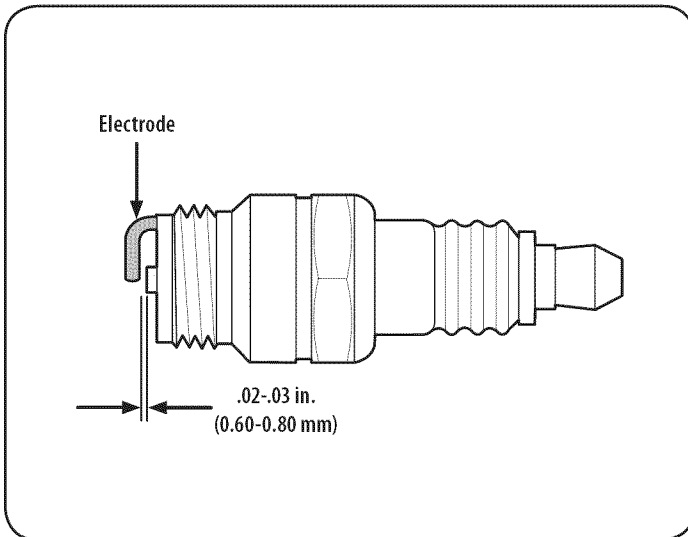

Figure 16
5. Measure the plug gap with a feeler gauge. Correct as necessary by bending the side electrode, see Figure 16. The gap should be set to .02-.03 inches (0.60-0.80 mm).